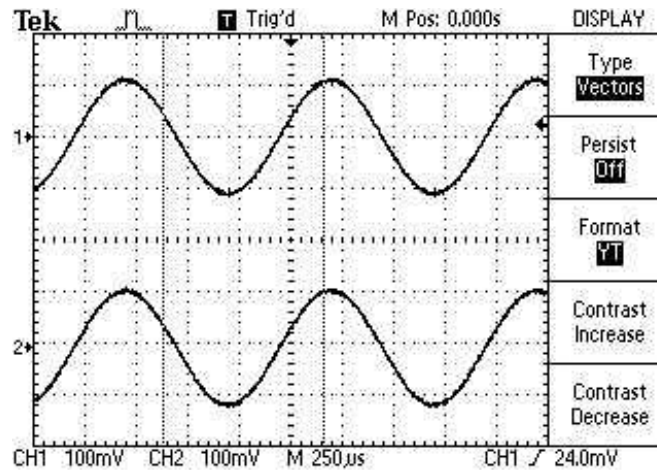

Figure 5
- Using the buttons on the right side of the LCD screen, choose: (see Figure 5)